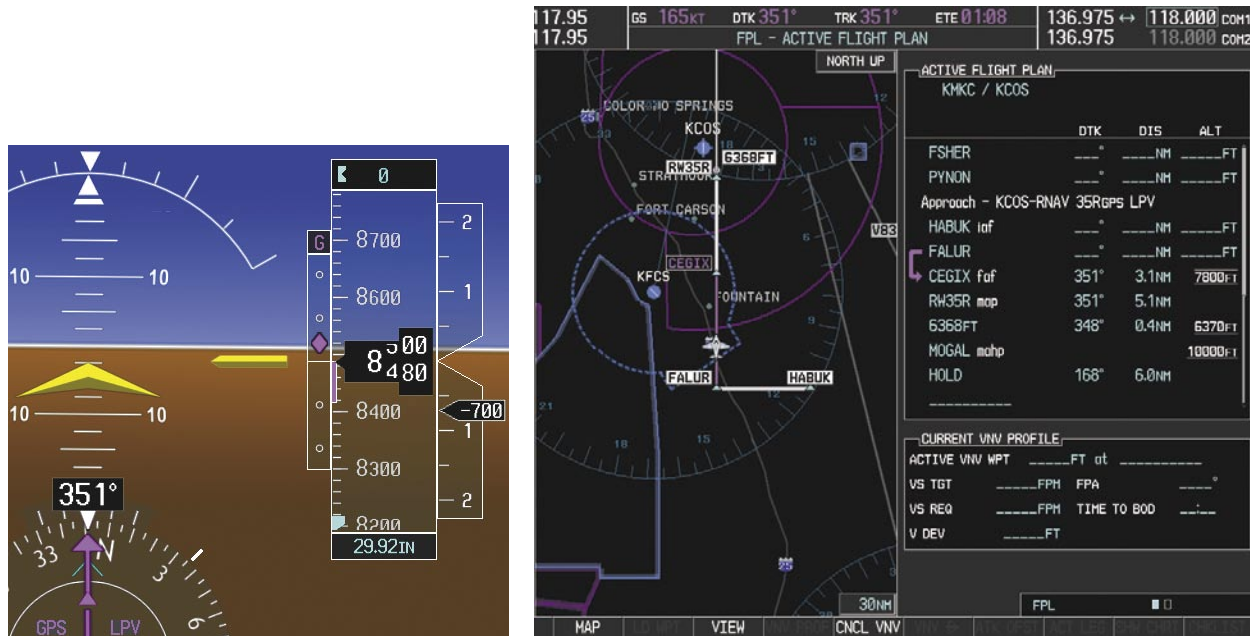

Figure 5-135 Descending to the FAF
- 23) After crossing FALUR the next waypoint is the FAF. The flight phase changes to LPV on the HSI indicating the current phase of flight is in Approach Mode and the approach type is LPV. CDI scaling changes accordingly and is used much like a localizer when flying an ILS approach. The RVSI is no longer displayed and the VDI changes to the Glidepath Indicator (as shown in Figure 5-135) when the final approach course becomes active.
The descent continues through the FAF (CEGIX) using the Glidepath Indicator, as one would use a glideslope indicator, to obtain an altitude "AT" 7,800 feet at the FAF. Note the altitude restriction lines over and under (At) the altitude in the 'ALT' field in Figure 5-135.